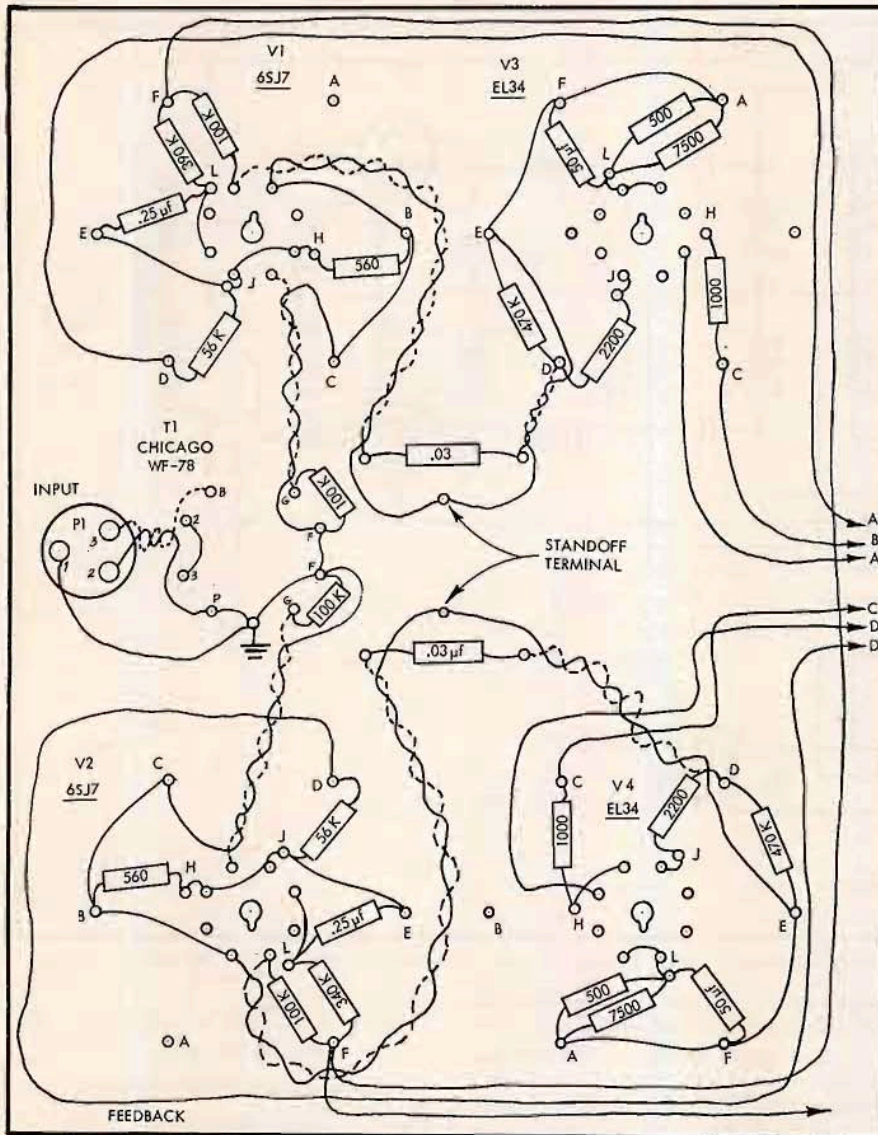
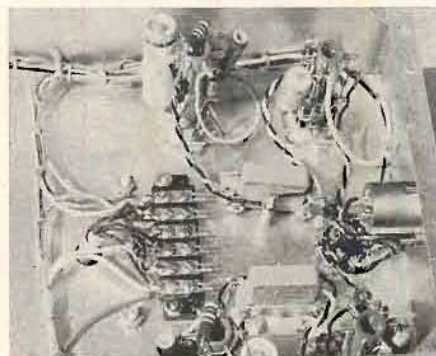

Fig. 4. Wiring diagram for Vector sockets used in both amplifier stages.
Fig. 7. Arrangement of Vector sockets for amplifier stages.
Figures 4 and 5 show the method for wiring the amplifier. These diagrams should be studied carefully before any actual wiring is done. Note that in Fig. 4 the parts are shown as though the Vector turrets were exploded. The letters A to L refer to the letters on the turret. Assembly on the turret sockets is made before installation in the chassis. Hold the resistors and capacitors on the turret to ascertain that the parts fit properly. On V_1 and V_2 turrets the resistors are mounted first and against the turret body. C_2 and C_3 can then be mounted. On V_3 and V_4 the 500-ohm resistors are mounted away from the other parts because of the heat generated. R_{11} and R_{12} can be mounted across the end of the turret. Figure 7 is a close-up photograph showing the turret assemblies. The resistor and capacitor leads do not have to be wrapped around the terminals since good solder (60% tin, 40% lead) has adequate strength to support these parts. When the soldering is being done, use alligator clips to conduct heat away from the parts. The use of a high wattage soldering gun is forbidden. For most audio purposes a 35-watt soldering tool is adequate and is faster than the gun. The Wall 18 soldering tool with a production-type tip is highly recommended.
turret sockets completely as shown in Fig. 4 with the recommended hookup wire. Use twisted pairs of color-coded wires and solder them at the turret terminals only. The color code facilitates tracing and locating the end of a particular wire. Do not twist a pair of wires by grabbing one end and twisting the other. Cut two pieces of wire to the proper length and clamp one end of each together in a vise. Then twist each wire clockwise with the fingers. Simultaneously move the wrists about each other counterclockwise. The twisted pair will be neat, tight, and symmetrical. The wires should be long enough so that, after groups of wires have been laced, there will be no strain on the soldered joint.
Capacitors C_3 and C_4 are mounted vertically by means of small angles made of thin sheet metal. Standoff terminals are employed as junction points for the "ground" lead. Figure 7 shows this arrangement. The wiring can be completed at this point. Observe the wiring of the chassis input connector. The highest numbered terminal (3) is the signal-carrying lead.